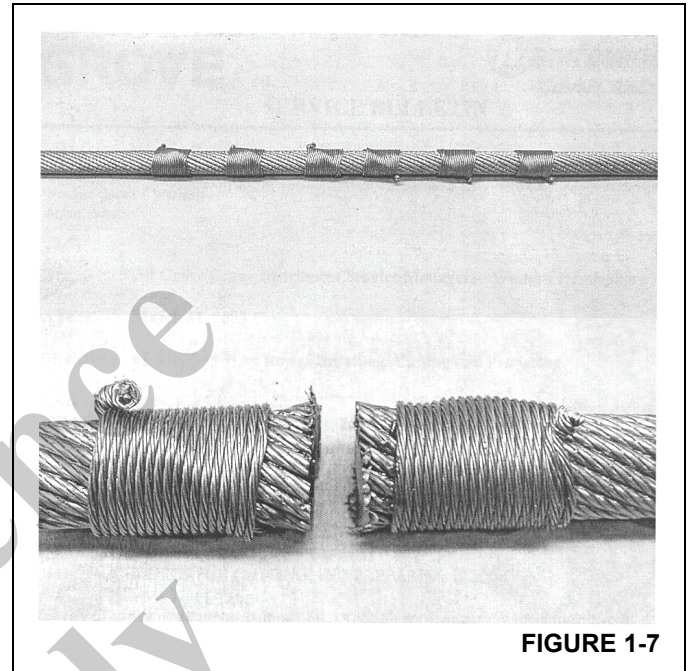

FIGURE 1-7
**NOTE:** Non-preformed wire rope should have two seizings located on each side of the cut (see Figure 1-7).
Any cutting of this specific wire rope is not recommended. If 35x7 wire rope must be cut for any reason, it is necessary to follow the attached instructions (see Figure 1-7). Also, unlike other types of wire rope, the ends on this wire rope must be welded.
2. Before cutting the rope, make three separate bands with seizing strand on each side of where the cut is to be made (total of six bands for each cut) (see Figure 1-7). Each band is to have a minimum length of one and one half times the rope diameter. The two bands closest to the cut should be located at a distance equal to one rope diameter away from the cut. The four remaining bands should be evenly spaced at a distance equal to three rope diameters.